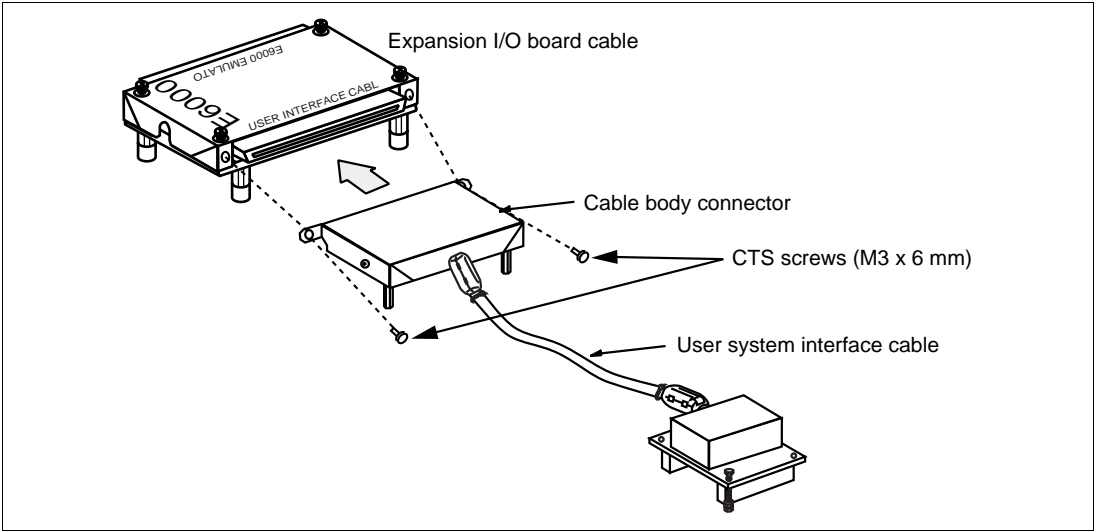

Figure 3 Connecting User System Interface Cable to Expansion I/O Board
2. After making sure the direction of the cable body connector is correct, firmly insert the cable body connector into the expansion I/O board socket (written as USER INTERFACE CABLE), and fasten the expansion I/O board with two CTS screws (M3 x 6 mm). (figure 3)